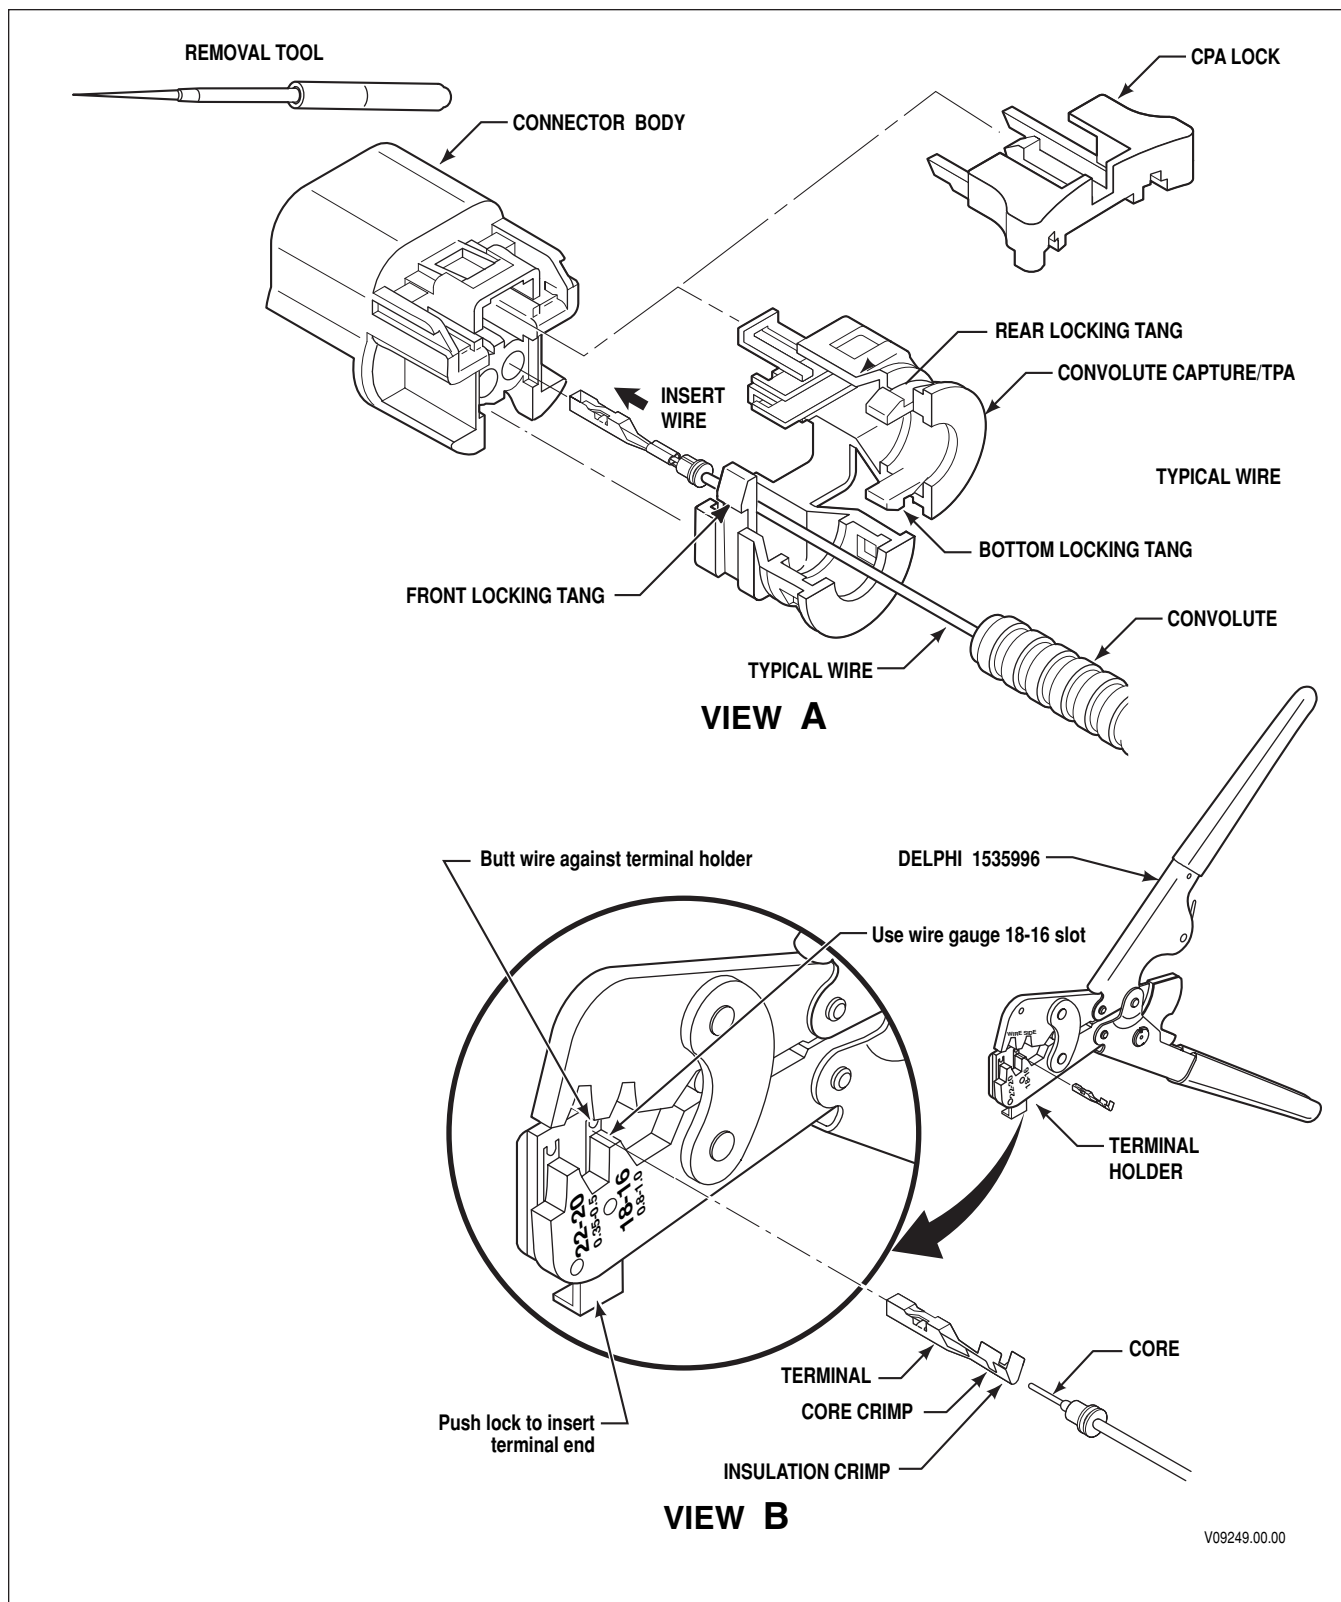
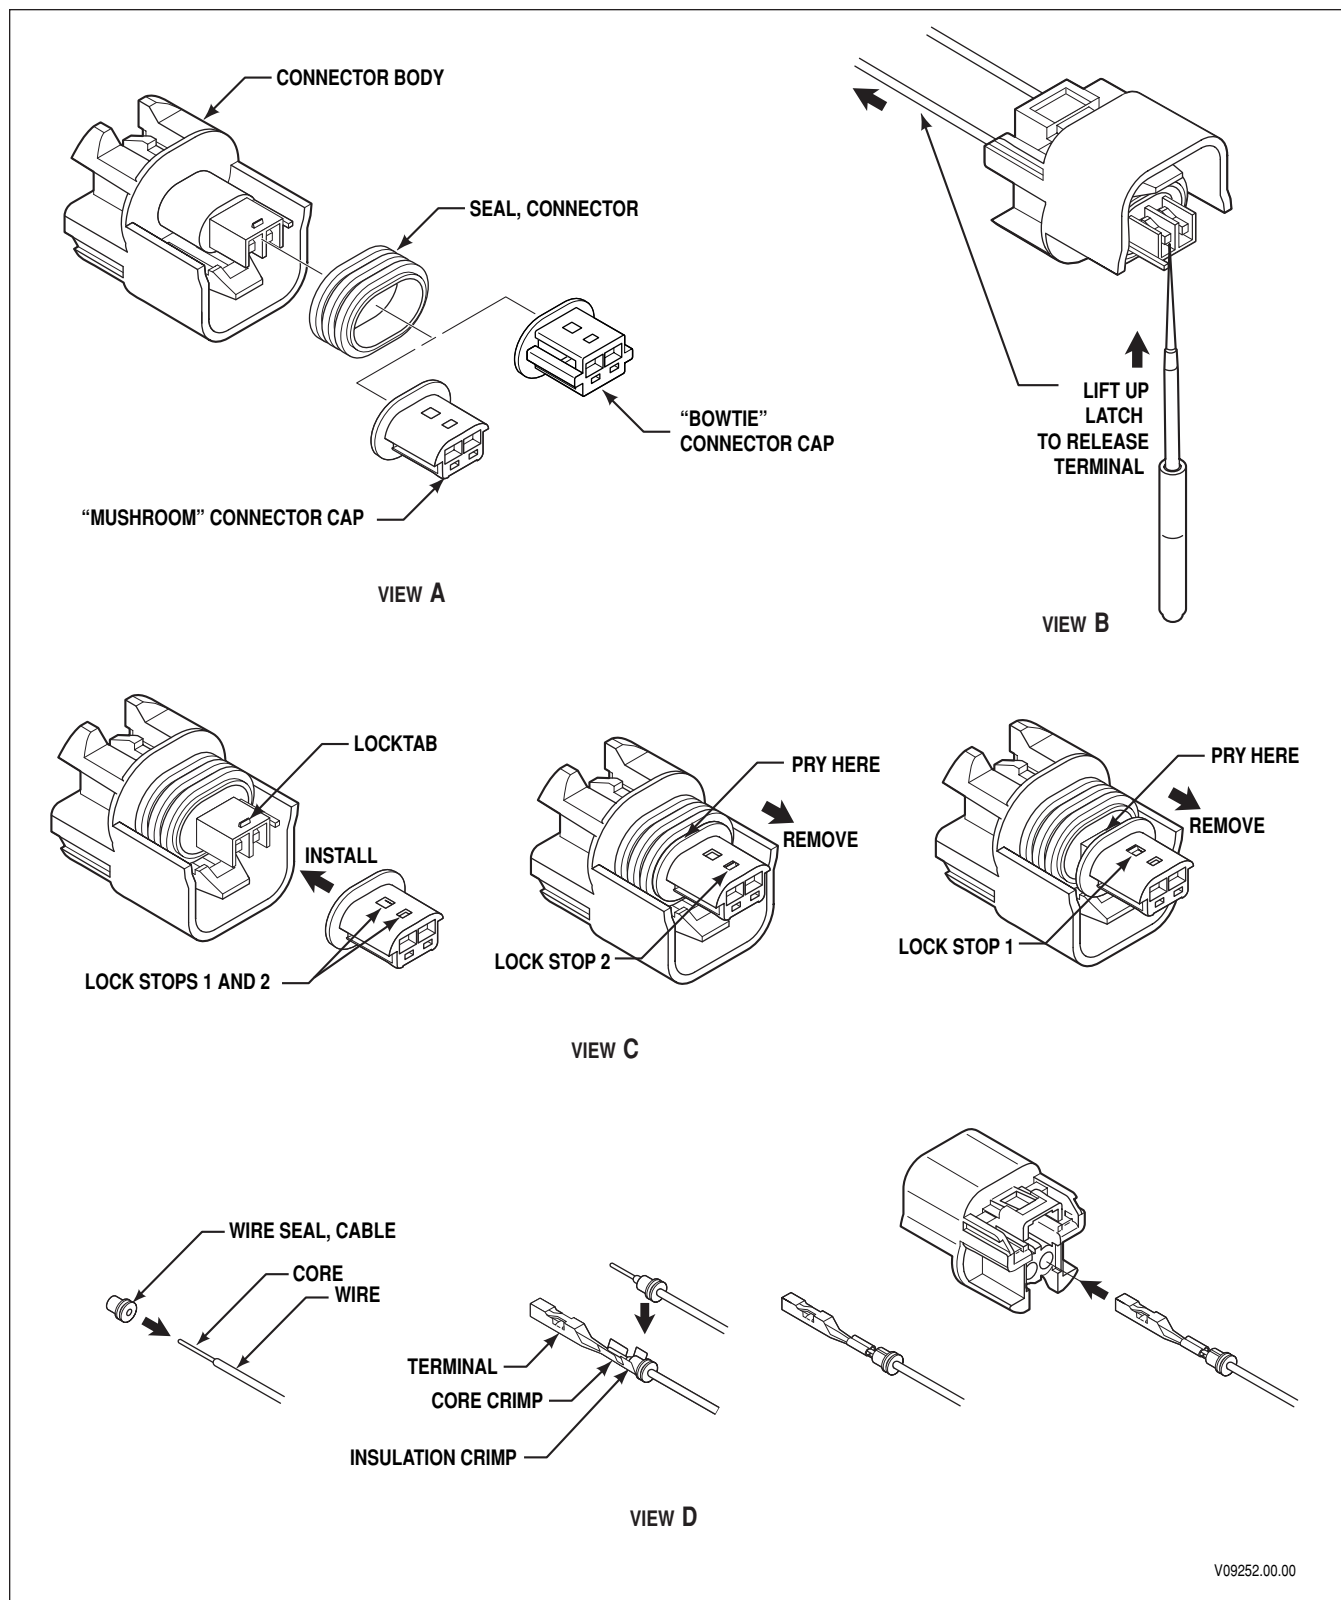

Figure E-5A. Delphi-Packard Metri-Pack GT150 Series Connectors—Push-to-Seat (Speed Sensor; Accumulator Solenoid; Retarder Solenoid)
Figure E-5B. Delphi-Packard GT150 Series Connectors—Push-to-Seat (Speed Sensor; Accumulator Solenoid; Retarder Solenoid)
1. The CPA lock has two positions. The fully locked position retains the connector to the mating connector. The second position allows the connector to be released from the mating connector. To facilitate terminal removal, completely remove the CPA lock by depressing the lock tang and pulling the lock up and away from the connector (Figure E-5A, View A).
4. Two different connector caps, “bowtie” or “mushroom”, are used (Figure E-5B, View A). Each connector cap has two stops (Figure E-5B, View C). The cap **must be** completely removed from
5. Insert the J 38125-12A removal tool between the terminal lock finger and the terminal (Figure E-5B, View B) and carefully lift the finger while pulling the wire and terminal rearward from the connector body (Figure E-5A, View A).
3. Pull out the wire stop blade of the crimping tool so it is clear of the terminal crimp area (Figure E-5A, View C). Place the terminal all the way into the appropriate wire size opening of the J 47139 crimping tool until it contacts the stop and is properly oriented. Squeeze the handle just enough to maintain pressure on the terminal so it does not drop out of the tool, but not enough to compress the crimp wings.
4. Push in the wire stop blade until it touches the terminal. Insert the wire core into the terminal, with the core held against the wire stop blade. Position the seal on the wire so the small diameter is in the insulation crimp wing (Figure E-5B, View D).
8. Insert the terminal and sealed wire into the connector (Figure E-5B, View D) until it stops. Lightly pull on the wire to be sure it is held in the connector by the terminal lock finger.
9. Install connector cap (Figure E-5B, View A) onto front of connector body.
3. Position the wire seal between the two insulation crimping tabs (Figure E-5B, View D).